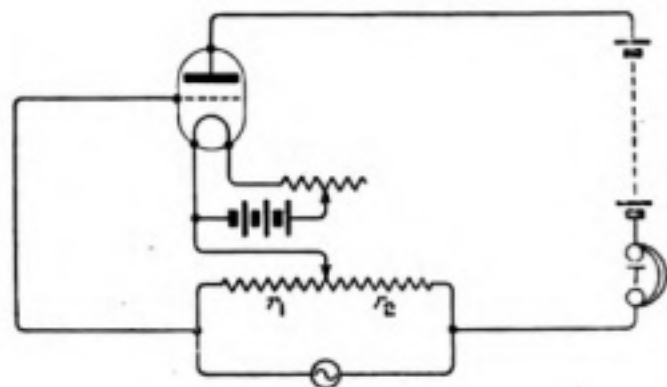

Fig. 3. Connection of voltage-factor meter.
It has on top a holder for the valve, which is provided with the usual filament battery and filament resistance, and is connected up with a high-tension battery in its plate circuit, in series with a pair of telephones. The grid and anode circuits are also connected to the ends of a potentiometer, Fig. 3, the filament connection being taken to the
- r_1 & r_2 = resistances marked with these symbols in Fig. 3 ;
circuit, a sound will be heard in the telephones due to the current flowing through them from the A.C. source. By adjusting the slider of the potentiometer (Fig. 3), a point will be found where the sound in the telephone practically disappears. If this is a uniformly wound potentiometer the ratio of the two lengths on each side of the slider is equal to the ratio of their resistances, and the voltage factor is given by the same ratio, viz., r_2/r_1 . In the instrument shown (Fig. 2) I have made the resistance marked r_1 in Fig. 3 a fixed one of value 1 ohm and the point of connection of the filament to the resistances is also fixed, but I have the anode tapping point variable. This tapping point is marked so as to be direct reading to give the voltage amplification factor of the valve in use. The instrument can be used for lecture demonstration with a two-valve note magnifier and loud speaker to render the telephone sounds audible over the room.